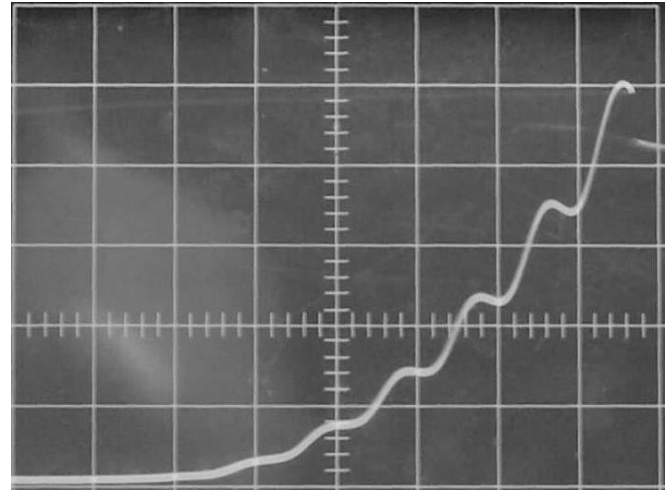

Fig. 4: Franck-Hertz-Experiments with the Hg-tube: Saw tooth measurement displayed by an Oscilloscope.
**B)** Use the push button (2) and rotary knob (13) to set the parameters according to the test report supplied with the tubes.
**C)** Switch on the oven with pushbutton (4). The red LED above pushbutton (4) continues to flash until the target temperature is reached.
**D)** Set to "saw tooth" with pushbutton (3). Connect outputs (7) and (8) to the oscilloscope, then select the XY operating mode for the oscilloscope. Start measurement with pushbutton (5). In this "saw tooth" mode, the voltages set for U1 and U2 are applied to the Hg-tube with a frequency of 28 Hz. The typical Franck-Hertz curve that results is shown in Fig. 4.